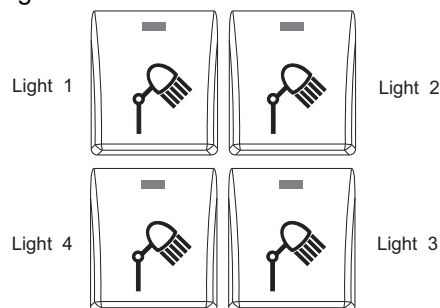

Figure 3-47. Light Fixture ON-OFF Buttons
- See Figure 3-47. Switch lights ON (I) by pressing the light ON-OFF buttons.